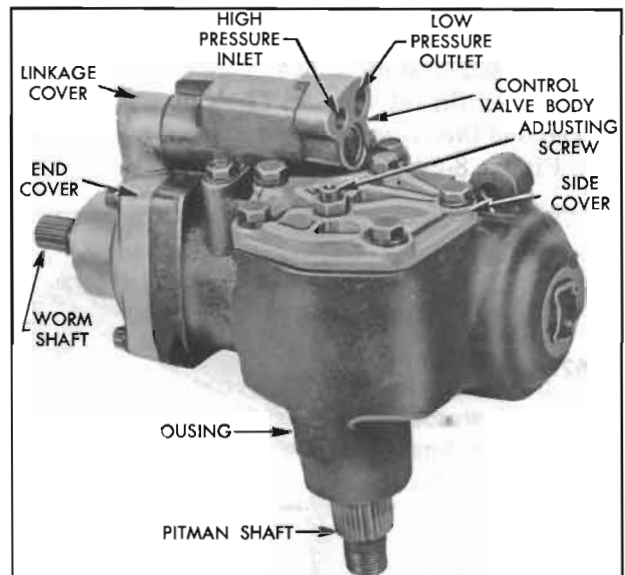

Figure 8-18—Right Side of Power Steering Gear Assembly
2. Remove the control valve retaining bolts and lift control valve and linkage cover off the gear housing. Pull the linkage cover out of the valve body. See Figure 8-18.